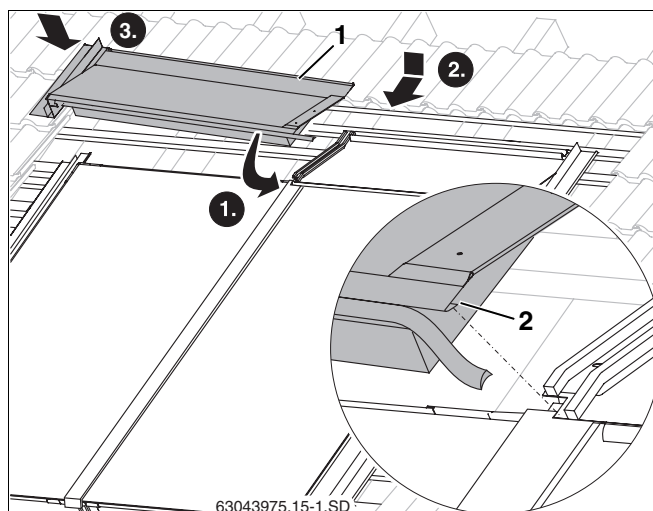

Fig. 55 Upper left facing panel
- ▶ Feed panel fold on remaining upper facing panels (Fig. 55, **Item 2**) into the fitted facing panel and then push towards the collector.
- ▶ Feed the upper left facing panel (Fig. 55, **Item 1**) into the side facing panel on the left.